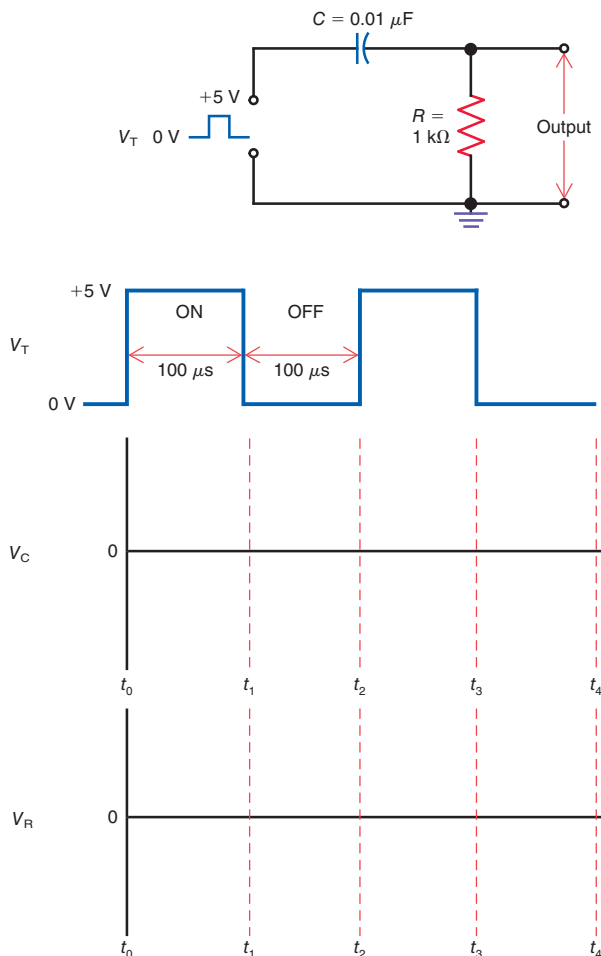

Figure 21-18
- 21.21** For the circuit in Fig. 21-18,
- 21.22** Assume that the resistance, R , in Fig. 21-18 is increased to $100\ \text{k}\Omega$ but the frequency of the applied voltage, V_T , remains the same. Determine